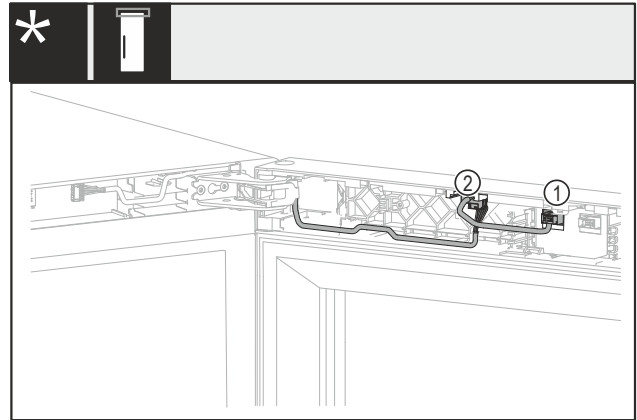

Fig. 17 Without lock or with mechanical lock*
- ▶ Pull out the plug. Fig. 17 (1)*
- ▶ Pull out the plug. Fig. 17 (2)*